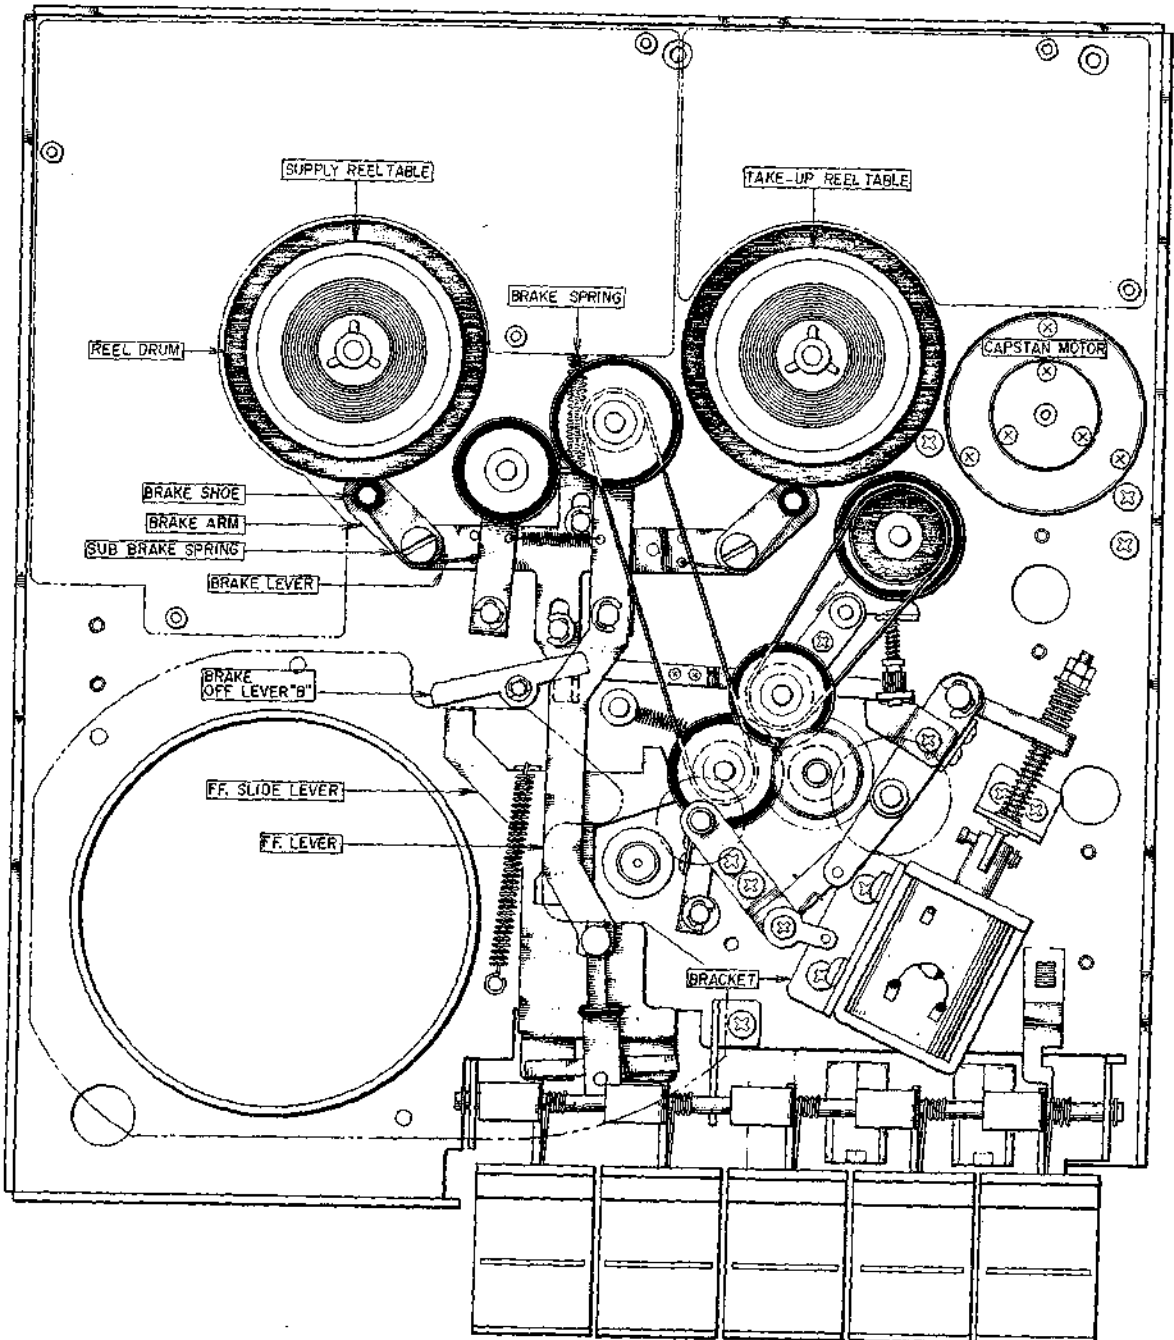

Fig. 1-28 Stop Mode
(1) **Fundamental Adjustments (Ref. figs. 1-28 and 1-29)**